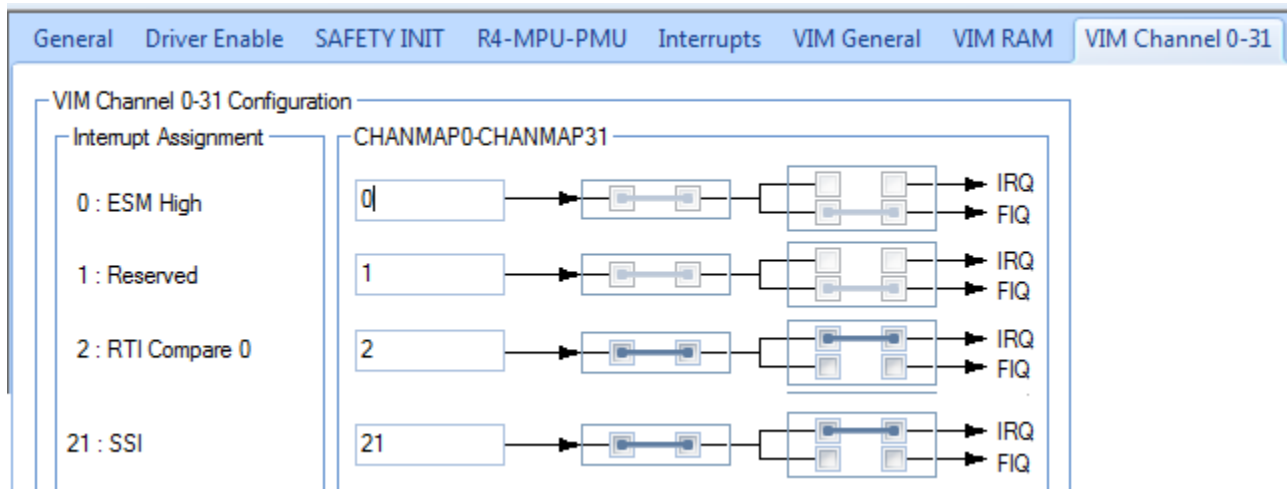

Figure 4-4. VIM Configuration
- Set VIM configurations as shown in Figure 4-4. FreeRTOS uses 2 interrupts: RTI Compare 0 and System Software Interrupt (SSI) (see Figure 4-5).